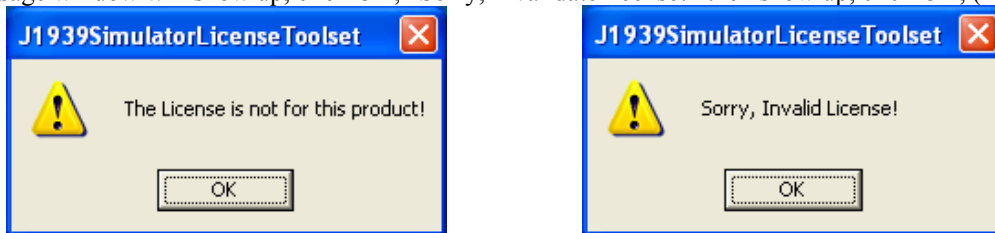

Figure B-12 – Warning message boxes show up if license is not valid
3. Au J1939 Simulator License Toolset will check if entered license number is valid or not. If not, “the license is not for this product” message window will show up, click OK, “Sorry, Invalidate license!” then show up, click OK, (Figure B-12).